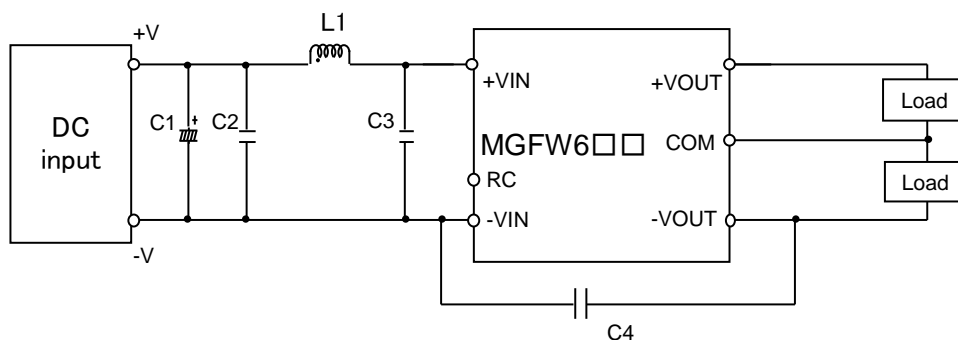

Fig.1 Testing circuitry
| 8   | Static electricityimmunity test             | (1) Applied voltage ±4kV(2) At rated input and load(3) Testing circuitry Fig.1   | (1)No protection circuit fail.(2)No output voltage drop due to control(3)No any other function fail.                        | 1                 | 0                  |